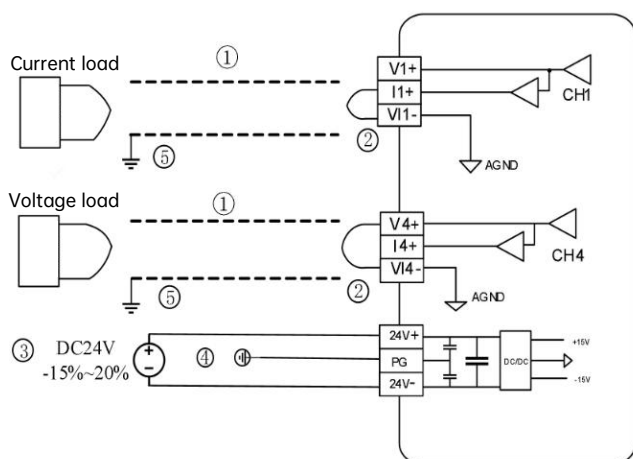

Fig 2-4 MU200-4DA terminal wiring diagram
Figure 2-4 shows the wiring requirements for terminals. ① ~ ⑤ indicates the notice when wiring:
- ① It is recommended to use a shielded twisted-pair cable, keeping far away from the power line;
- ② Do not occur short-circuit between voltage terminals and current terminals in any mode.
- ③ The power supply can use the auxiliary output DC24V power supply of the main module, and can also use other power supplies.
- ④ The ground terminal is well connected;
- ⑤ Do not use the empty pin of terminal.